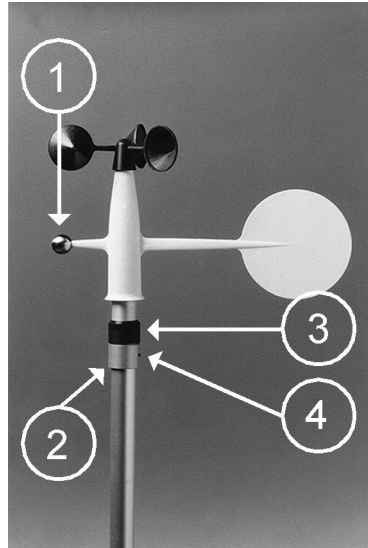

Figure 101 **Aligning Wind Vane**
1. Turn the nose (number 1 in Figure 101 on page 108) of the vane to a known point of compass, for example, north.